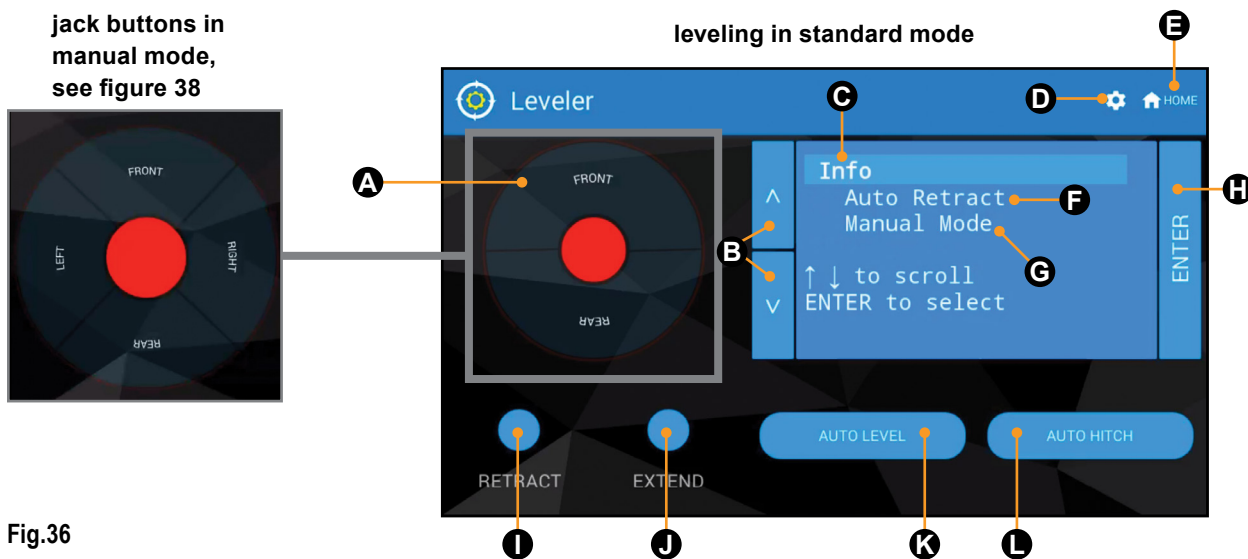

Fig.36
A	Jack Buttons - Select FRONT, REAR, RIGHT and LEFT jacks to be operated depending on mode. Jacks available to be operated will be highlighted in blue. Only the Power Tongue Jack can be operated in Standard Mode (Fig.36). In Manual Mode (Fig.36), all leveling jacks are available to be operated (No Power Tongue Jack operation available).
To reach Standard Mode (Fig.36) for leveling:
3. The screen will show the system menu (Fig.36) for Standard Mode. The Power Tongue Jack can be extended/retracted in Standard Mode. Front and rear jacks cannot be operated in Standard Mode.
1. While in Standard Mode (Fig.36), use the arrows (Fig.36B) to scroll to Manual Mode (Fig.36G). Press ENTER button (Fig.36H).